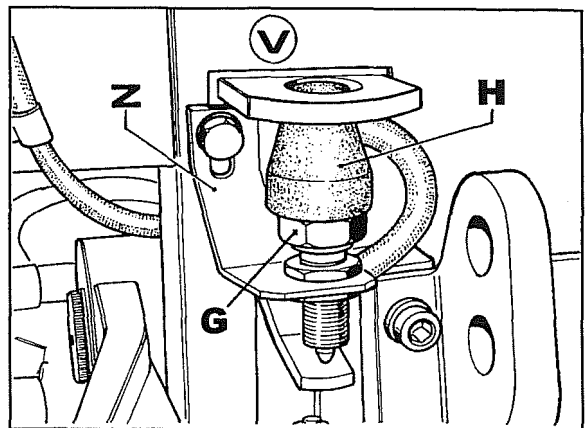

Fig. 36
4. Replace guard **V** Fig.36 cut as needed to permit the switch and its lever to be installed and worked (see Fig.36).
Fit switch **Z** and **G** mountings with wiring **H** Fig.36. Connect the wires to the connectors joined by the plastic tangs. Push the cable from the right of switch under the seat mount and bring it to the raise/lower control box mount.